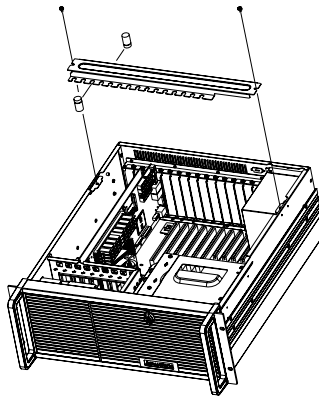

Figure 2.6: Installing hold-down clamp and rubber cushions
1. After plugging in the CPU card or add-on cards, please insert the rubber cushions provided into the notches of the hold-down clamp, and adjust them to the placement of the cards. The cushions offer these cards a further level of protection against shock and vibration. (See *Figure 2.6*).